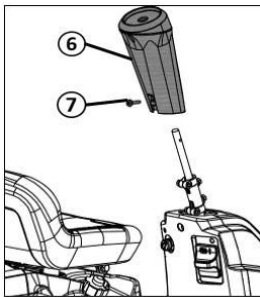
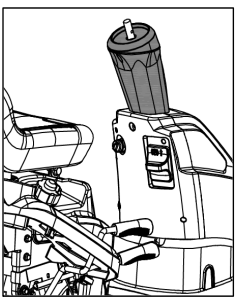

Figure 9
Figure 10
2. Install the shroud of direction rod to the designated position of the ride on mower according to the method shown in Figure 9, and the installation status is shown in Figure 10.